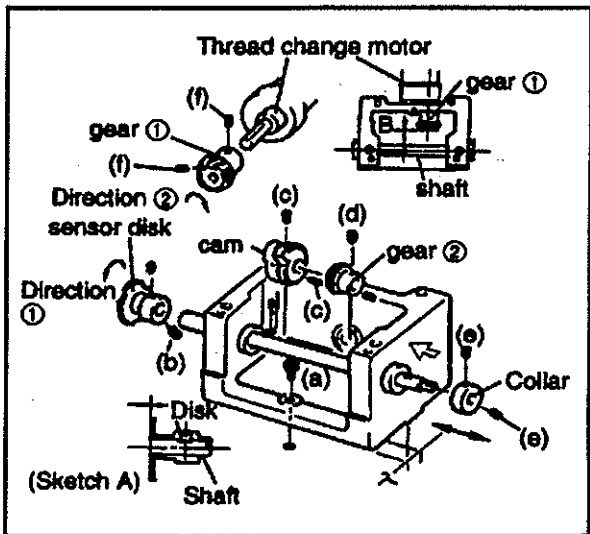

FIG.6
- (7) Replace the gear ② to align the set screw of the gear ② with the flat part of the shaft, then secure it using the two retaining screws (d) (Fig.6).
- (8) Replace the cam to align the set screw of the cam with the set hole of the shaft, then secure it using the two retaining screws (c) (Fig.6).
- (9) Replace the gear case to the arm using the three retaining screws (a) (Fig.6).